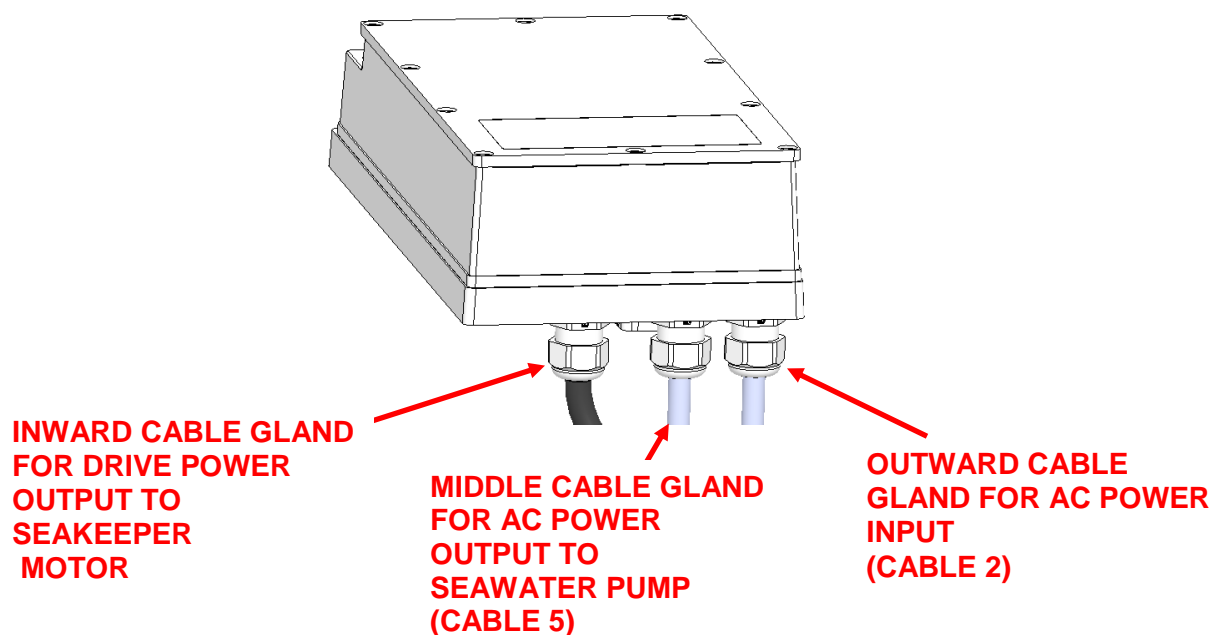

FIGURE 2 – DRIVE BOX AC POWER INPUT & OUTPUT CABLE GLANDS
- i. Locate CABLE 5 for AC power output to the Seawater Pump from the Drive Box at the middle of three cable glands. (See Figure 2.)
- i. Locate CABLE 5 for AC power output to the Seawater Pump from the Drive Box at the middle of three cable glands as shown in Figure 2.